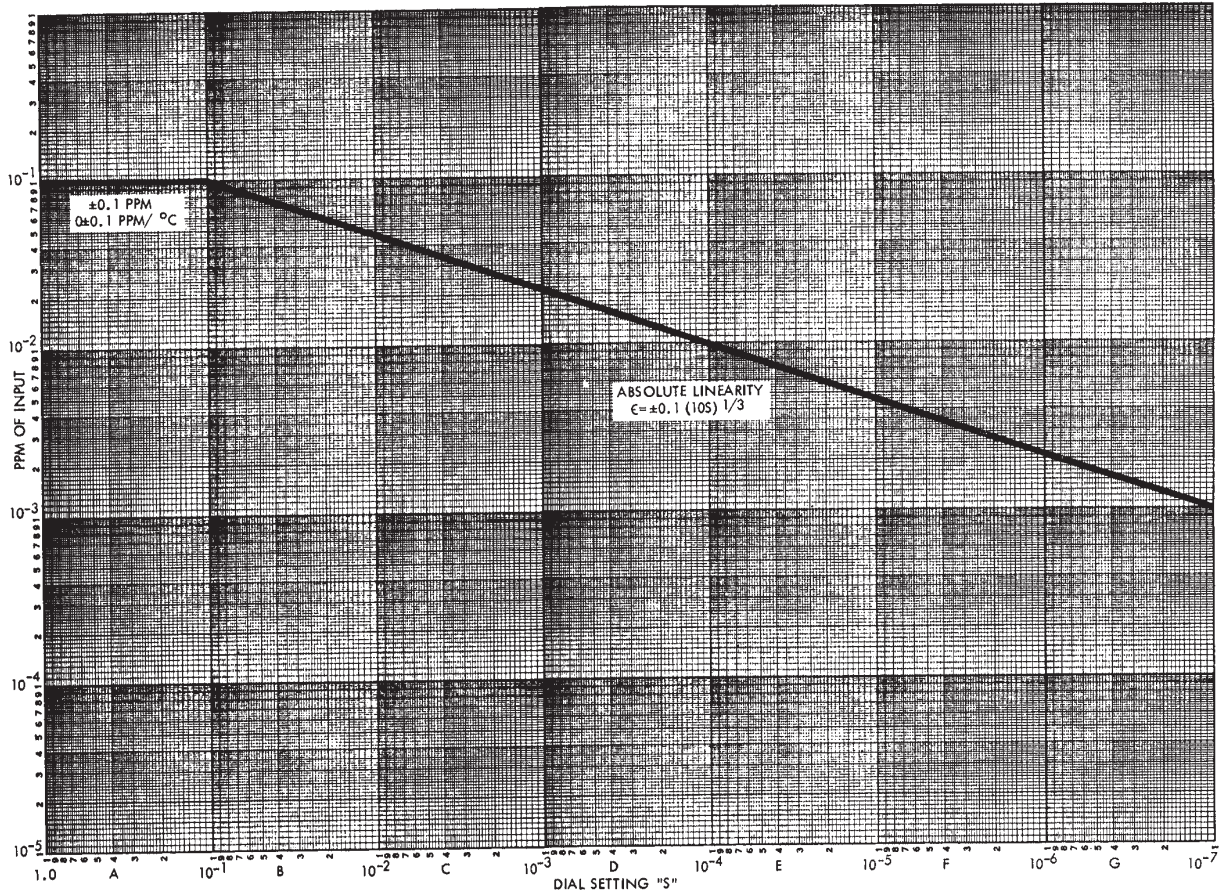

Figure 1-1. ABSOLUTE LINEARITY
±0.1 (10S)^{1/3} of input at dial settings (S) of 0.1 to 0. (See Figure 1-1.)